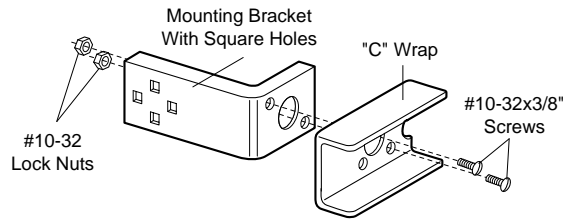

Figure 3 Garage DOOR Track Installation
- Discard slotted bracket. Drill 3/8" holes in each track and fasten securely with hardware as shown in Figure 3.